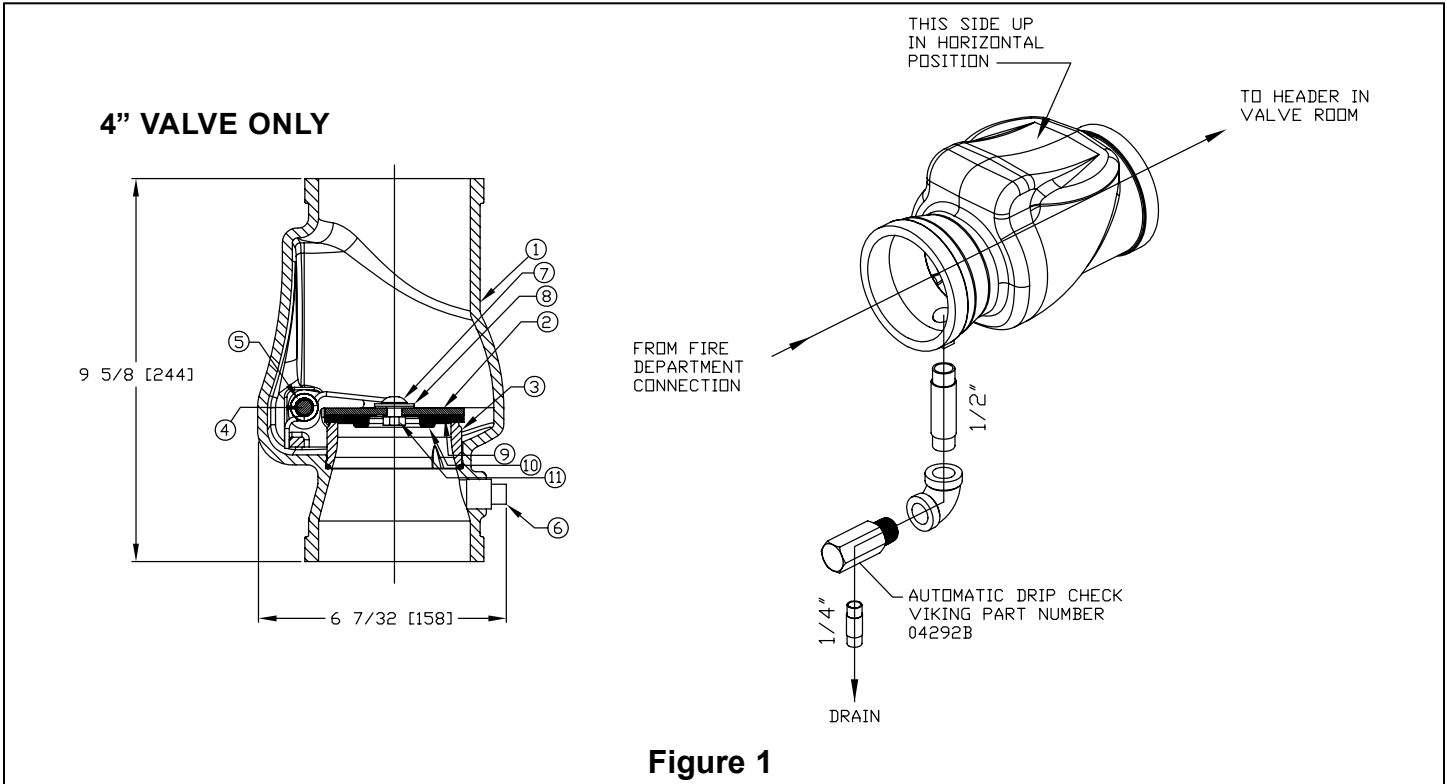

Figure 1
Refer to Figure 1
5. OPERATION (Refer to Figure 1)
6-A Five-Year Internal Inspection (Refer to Figure 1)
6-B Maintenance (Refer to Figure 1)
2. To remove clapper rubber (9):
- a. Use the appropriate wrenches to loosen and remove button-head socket screw (7), hex nut (11), sealing washer (8), and rubber retainer (10).
- b. Remove the clapper rubber (9) for inspection. If the clapper rubber shows signs of wear, such as cracking, cuts, or excessively deep grooves where the rubber contacts the water seat, replace the rubber.
3. To re-install clapper rubber (9):
- a. Place the clapper rubber (9) over the center hub of the rubber retainer (10).
- b. Position the retainer (10) (with rubber in place) against the clapper (2) as shown in Figure 1.
- c. Replace and tighten the button-head socket screw (7), sealing washer (8), and hex nut (11). The sealing washer (8) must be located on the top side of the clapper assembly (2) as shown in Figure 1. DO NOT over-tighten.